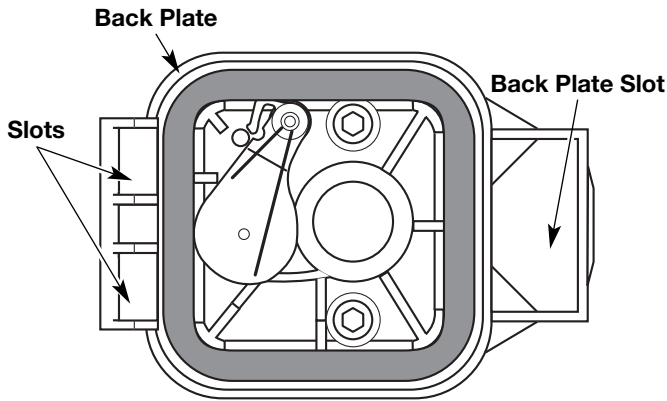

Fig. 60
6. Replace the filter (Fig. 60).
7. Reinstall the air filter cover. Position the hooks on the left side of the air filter cover into the slots at the left side of the back plate (Fig. 60).
8. Swing the cover to the right until the tab on the air filter cover snaps into place in the slot on the back plate (Fig. 60).